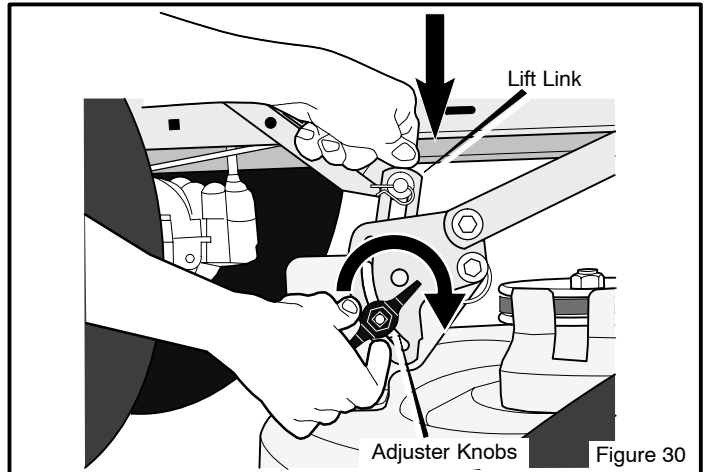

Figure 30
6. Loosen the left and right **adjuster knobs** (Figure 30). Push down on each side of the mower housing. Make sure both sides of the mower housing are setting on a flat surface. Also, make sure the lift links are loose and can easily move up or down.
7. Push down on the **lift links** and tighten the left and right **adjuster knobs** (Figure 30). Make sure the **adjuster knobs** are tight. If necessary, use a wrench to tighten the **adjuster knobs**. For plastic **adjuster knobs**, tighten to a torque of 7 foot pounds (9,5 N-m). For metal **adjuster knobs**, tighten to a torque of 10 foot pounds (13,5 N-m).